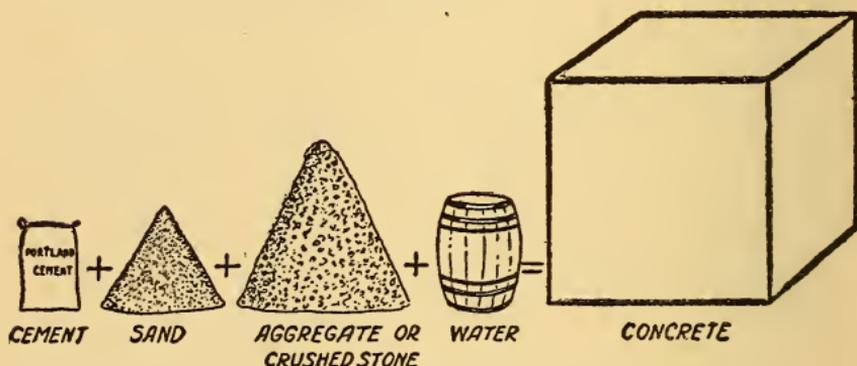

FIG. 58. THESE SUBSTANCES MAKE CONCRETE
*Portland*, or *hydraulic cement* is made by heating the right amounts of *limestone* ( $\text{CaCO}_3$ ), *clay* ( $\text{HAlSiO}_4$ ) and *sand* ( $\text{SiO}_4$ ) or a natural rock having all of these compounds in it. When mixed with water it forms a mass that gets hard and *sets* in a short time. Different from mortar, it will *set* under water. *Concrete* is simply a mixture of *Portland cement*, *sand* and broken stone. Fig. 58 shows approximately the proportions these substances must be mixed to make concrete.